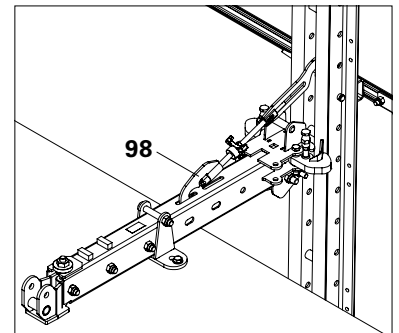

Fig. C3.06a
1. Insert Climbing Rails into the opened top Climbing Shoes (10a). Use the Guide-in Tool (98). (Fig. C3.06a)